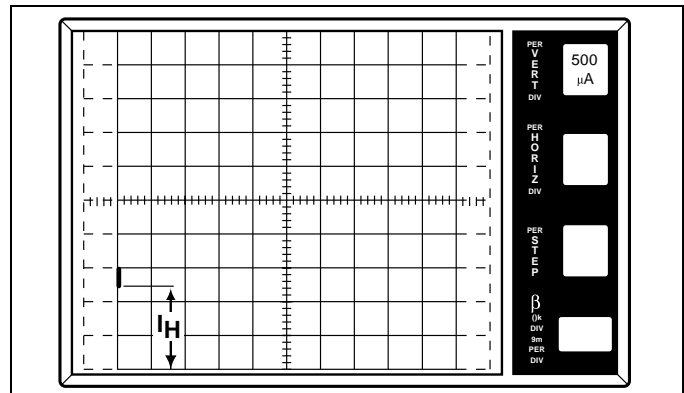

Figure 19.6  $I_H$  is 1.2 mA
7. Set *Number of Steps* to (1).
13. Increase *Variable Collector Supply* to maximum position (100).
16. Decrease *Variable Collector Supply Voltage* to the point where the line on the CRT changes to a dot. The position of the beginning point of the line, just before the line becomes a dot, represents the holding current value (See Figure 19.6.)